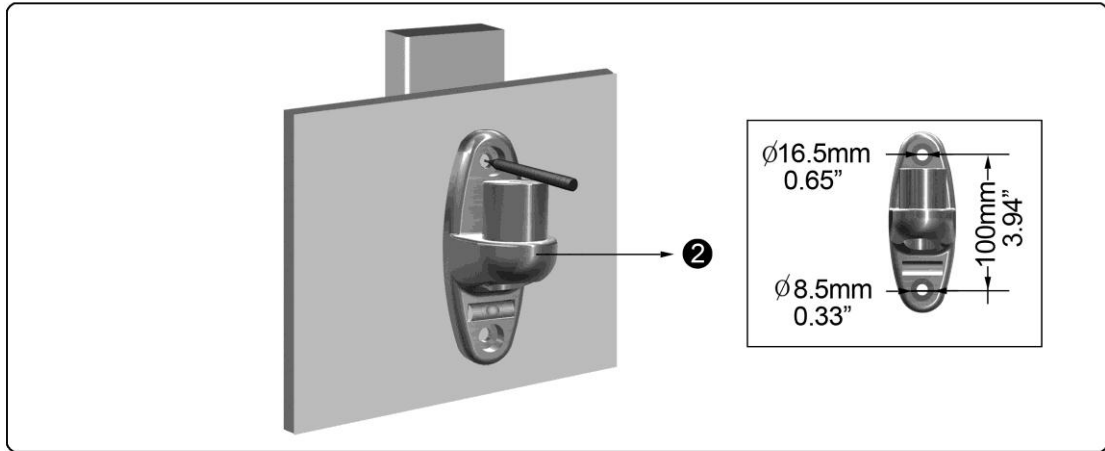

Figure 1-2
2. Place the Wall Plate **(2)** on the wall. Mark location with pencil (**See Figure 1-2**).